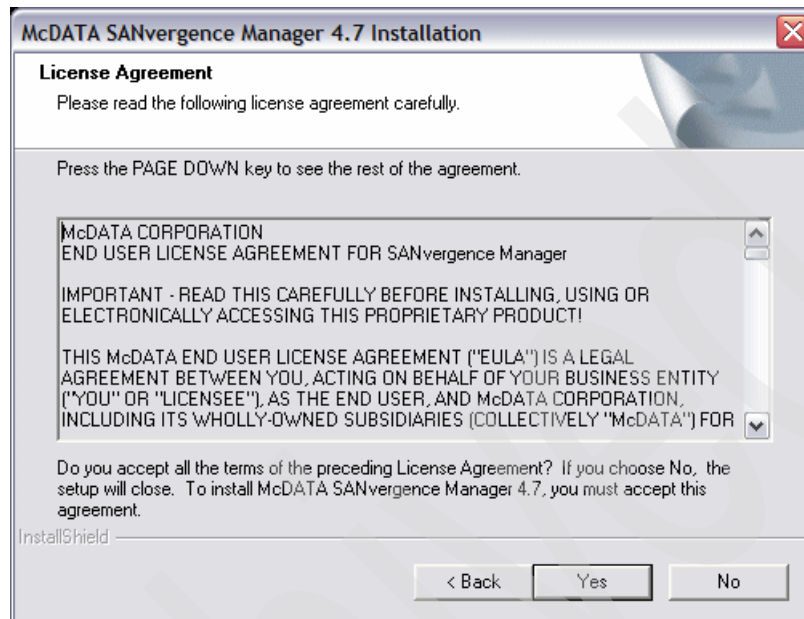

Figure 17-11 Accepting the SANvergence Manager licence agreement
3. Read and accept the licence agreement shown in Figure 17-11 by clicking **Yes**.